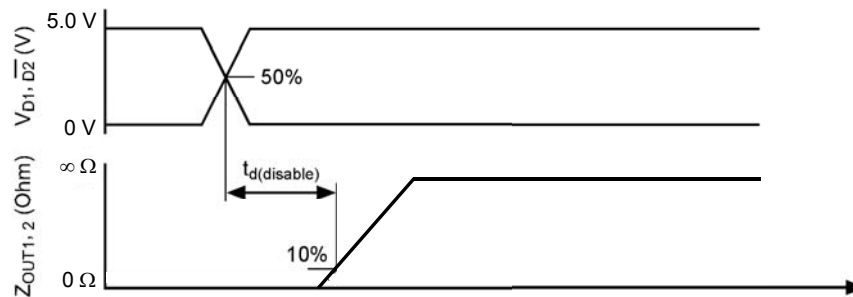

Figure 3. Disable Delay Time
28. Disable Delay Time is the time duration from the midpoint of the D (disable) input signal to 10% of the output tri-state response. See Figure 3, page 11.